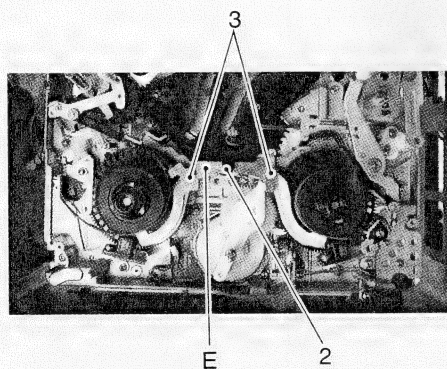

Fig. 2-6-15
5. Remove the screw 2 and the two screws 3, then remove the arm guide E (see Fig. 2-6-15).